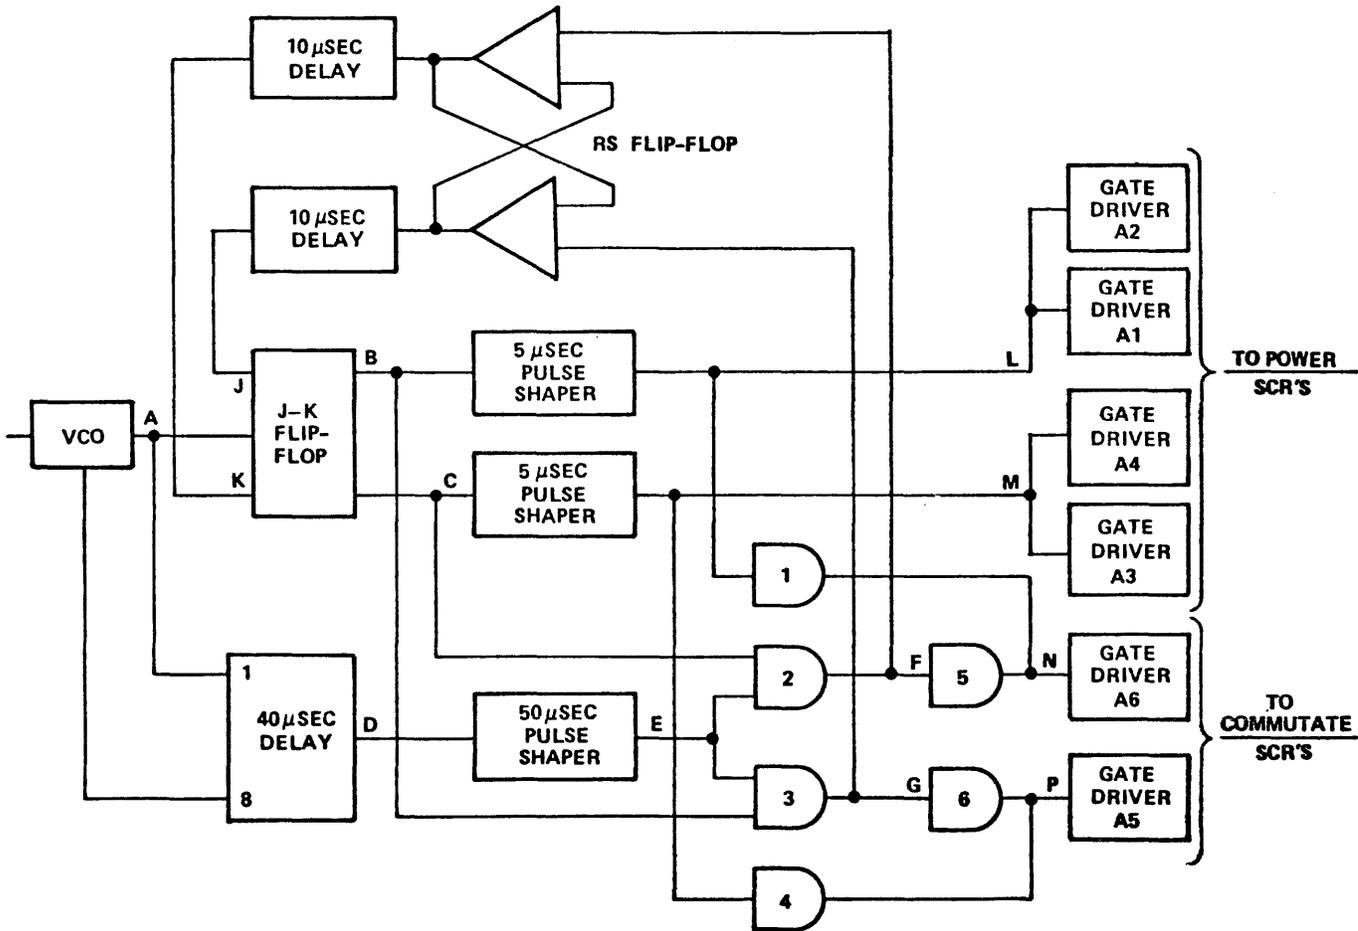

Figure 3-48. Inverter Timing Circuit Block Diagram
The logic timer and gate driver circuit serves to properly sequence the firing of the power and commutating SCR's in the inverter, effectively determining the inverter pulse length. The circuitry to perform this function consists of several flip-flops, delay lines, and pulse shapers as shown in figure 3-48.
- a. Assuming that the "J" input to the J-K flip-flop in figure 3-48 is initially high and the "K" input is low, the trailing edge of the next VCO output pulse causes the set output (B) of the flip-flop to go high and the reset output (C) to go low.
- d. The 40 μ s delayed pulse from the shaper is ANDed with the Set and Reset outputs of the J-K flip-flop at gates 3 and 2 respectively. Since the flip-flop set output (B) is still high at this time, the delayed pulse is passed to gate driver A5. The driver triggers commutating SCR A5, discharging the commutating tank circuit, and thereby terminating the inverter output pulse by reverse biasing the two conducting power SCR's.